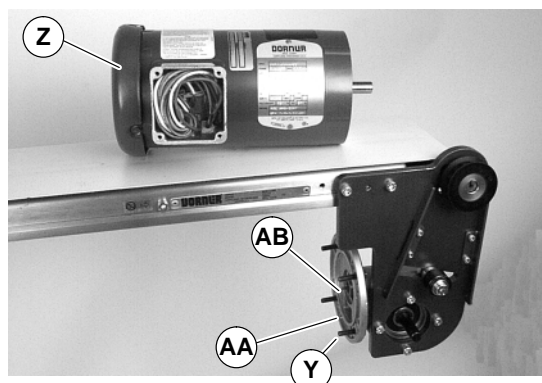

Figure 22
4. Remove four screws (Y of Figure 22). Detach motor (Z) from gear reducer (AA). Retain motor output shaft key (AB).